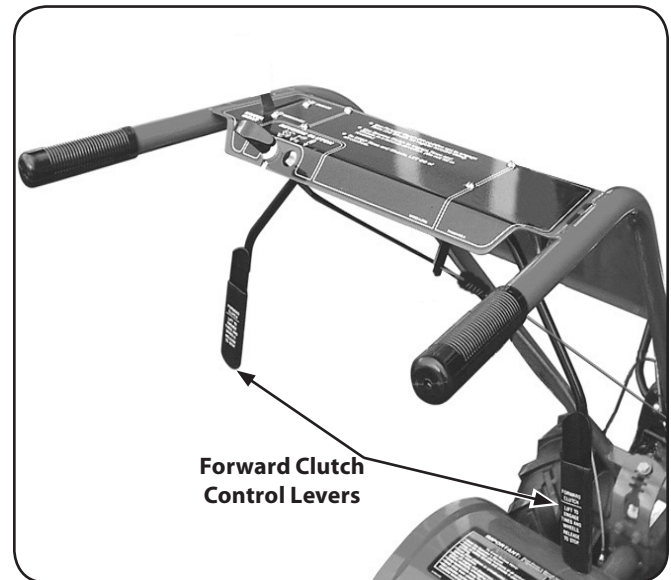

Figure 3-6
1. Remove any fasteners (rubber bands, tape, etc.) that may secure the Forward Clutch Control levers to the handlebar. See Figure 3-6.